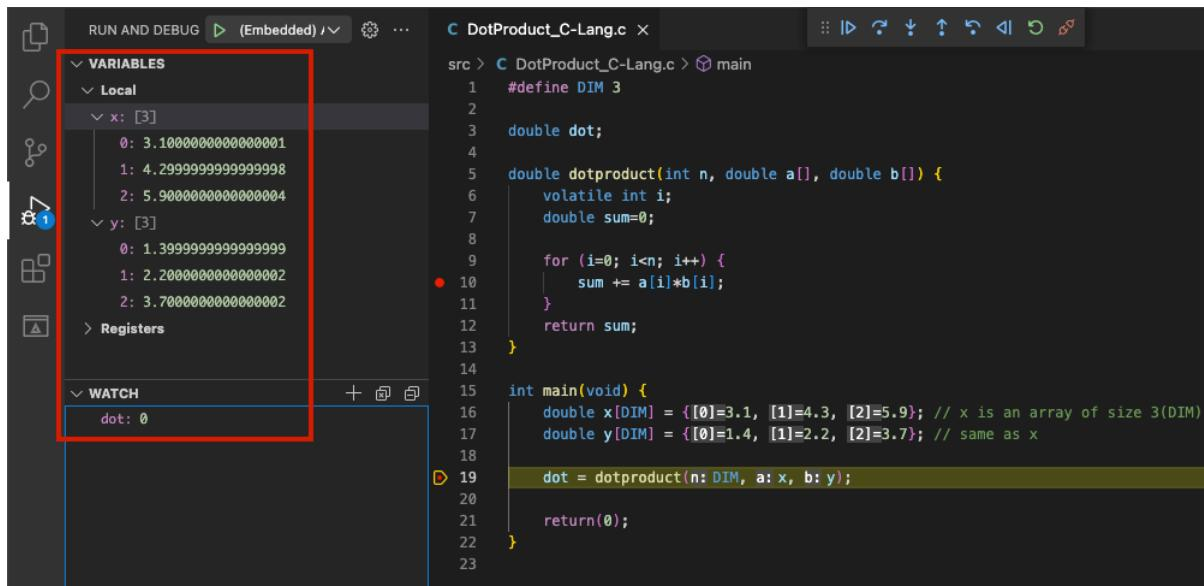

Figure 65. DotProduct_C-Lang program: values of the variables at the first breakpoint
5. Before calling the debugger, set a breakpoint at line 10 and another one at line 19 (see Figure 65).
6. Then, start debugging. The program will start executing; stop it at the first breakpoint (see Figure 65).
7. On the Debugger sidebar, expand the values of x and y in the VARIABLES section (see Figure 65). The two vectors contain the initial values assigned in *main*. Add dot to the WATCH section. The *dot* variable is initialized to 0.